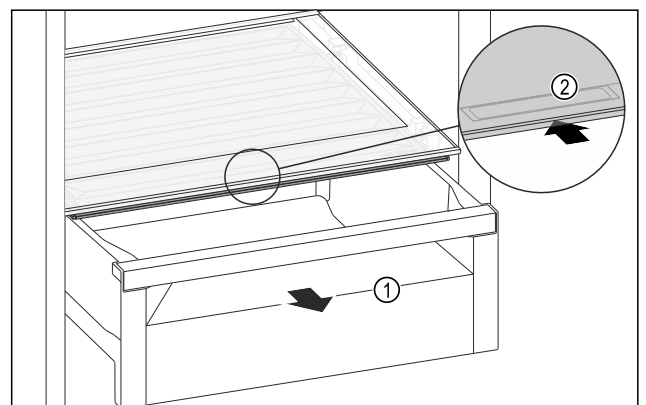

Fig. 213
- Pull out the drawer Fig. 213 (1).
- Grasp the recessed grip Fig. 213 (2) on the compartment lid and push the compartment lid backwards at the same time.